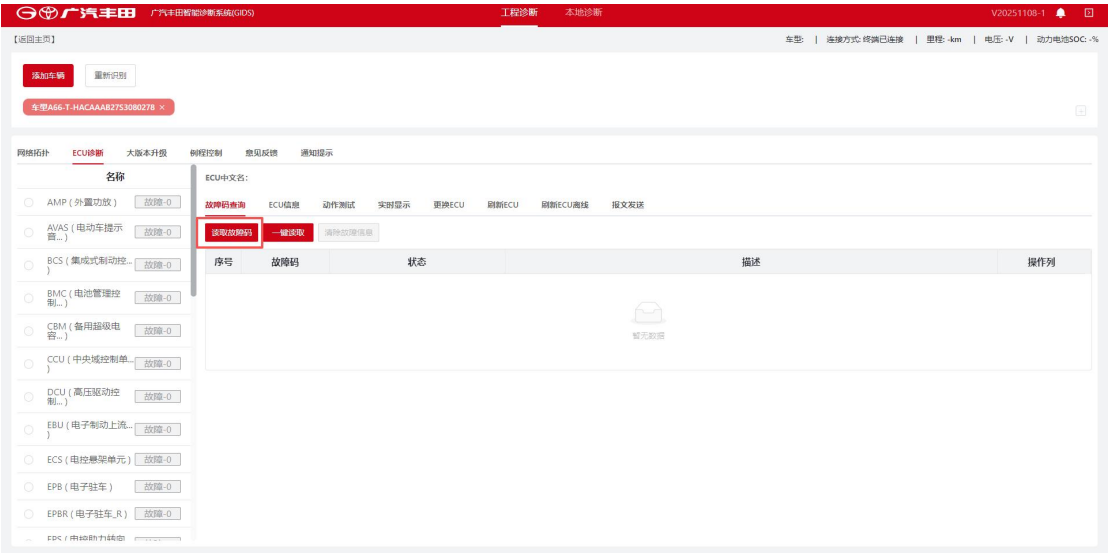

Figure 5-3 Reading DTCs
1. After selecting the ECU to be read, click the "Read DTCs" button in the DTC Query section, as shown in Figure 5-3 Reading DTCs, and GIDS reads the DTCs from the vehicle and displays the current fault and history fault data.